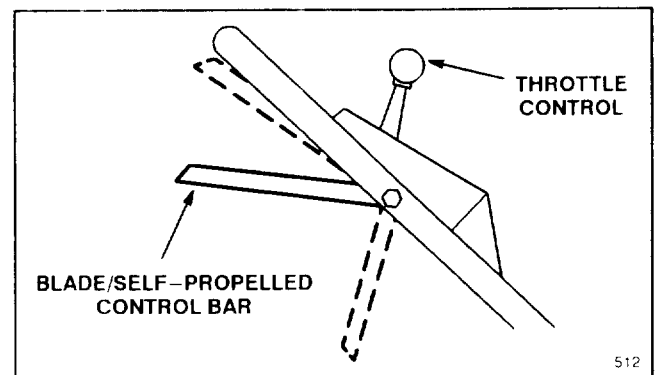
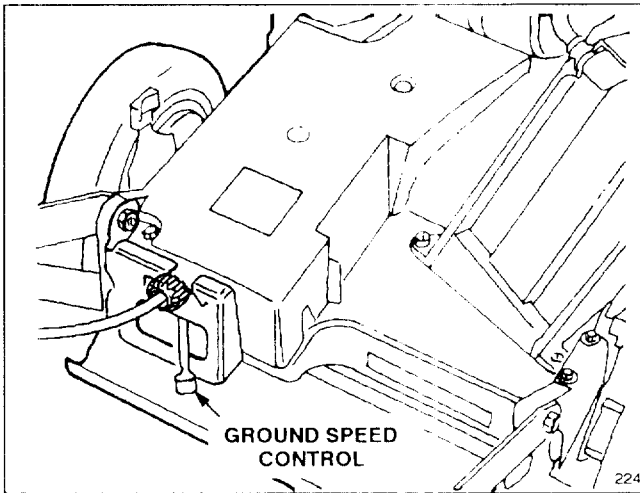
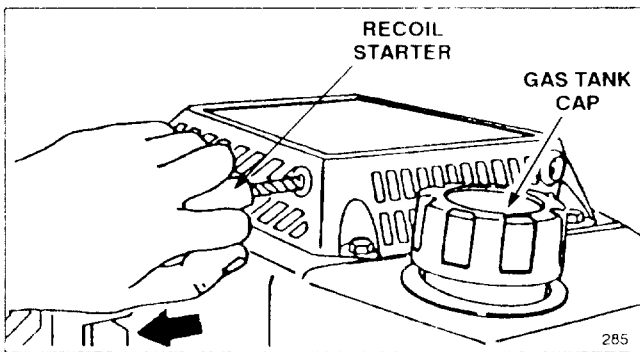

Figure 9
Figure 10
Figure 11
1. Clean around fuel tank cap and remove cap from tank (Fig. 11). Using unleaded gasoline, add fuel to 1/4" to 1/2" (6 to 13 mm) from top of tank, not into the filler neck. Do not fill the tank full.
1. **CONTROLS**—Throttle control and blade/self-propelled control bar are on upper handle (Fig. 9). Ground speed control is located at rear of belt cover (Fig. 10). Recoil starter is on top of engine (Fig. 11).
- Remove cap from fuel tank (Fig. 11) and use pump-type syphon to drain fuel into clean gas can.